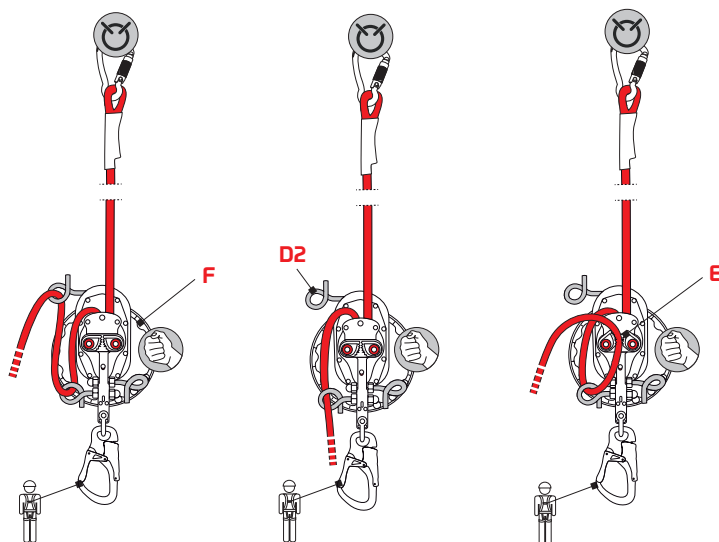

Fig.10
- f) release the handwheel (F),
- i) while holding the handwheel (F), let the rope out the pigtail bolt (D2) and in the rope clamp (E) – fig. 10